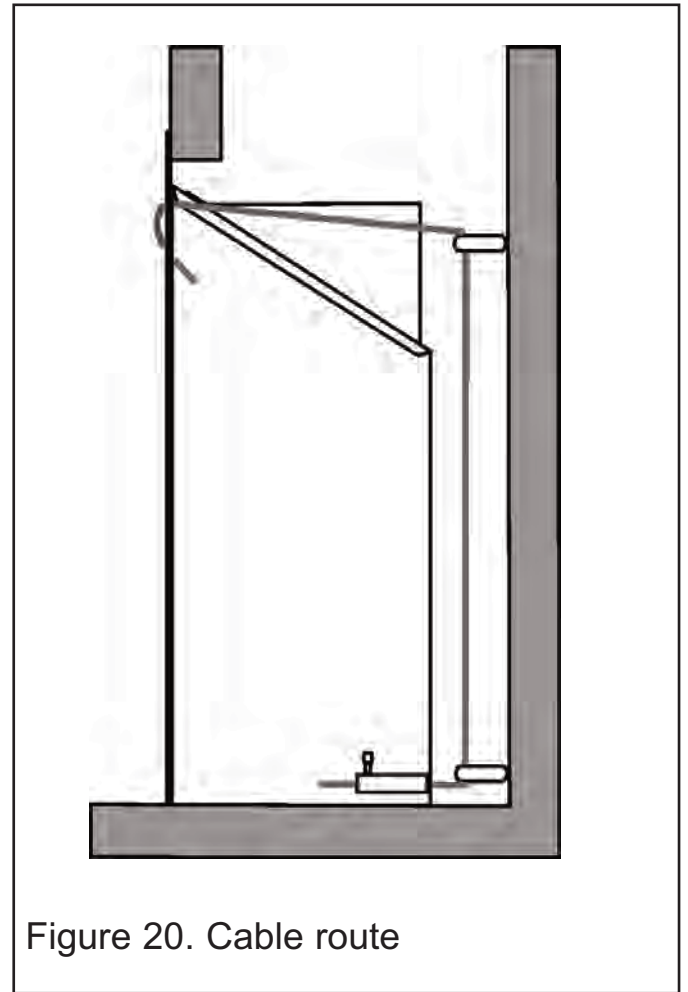

Figure 20. Cable route
5. The convection box has two holes at each side of the convected air opening. Insert one end of each cable (one cable each side) from the back through the lower of the two holes and return the end through the upper of the holes (See figure 20). Give the cables a pull so that they grip against the convection box flanges.
6. Thread the cables through the eyebolts. Return the cables through the holes near the bottom of the convection box back panel (See figure 20).